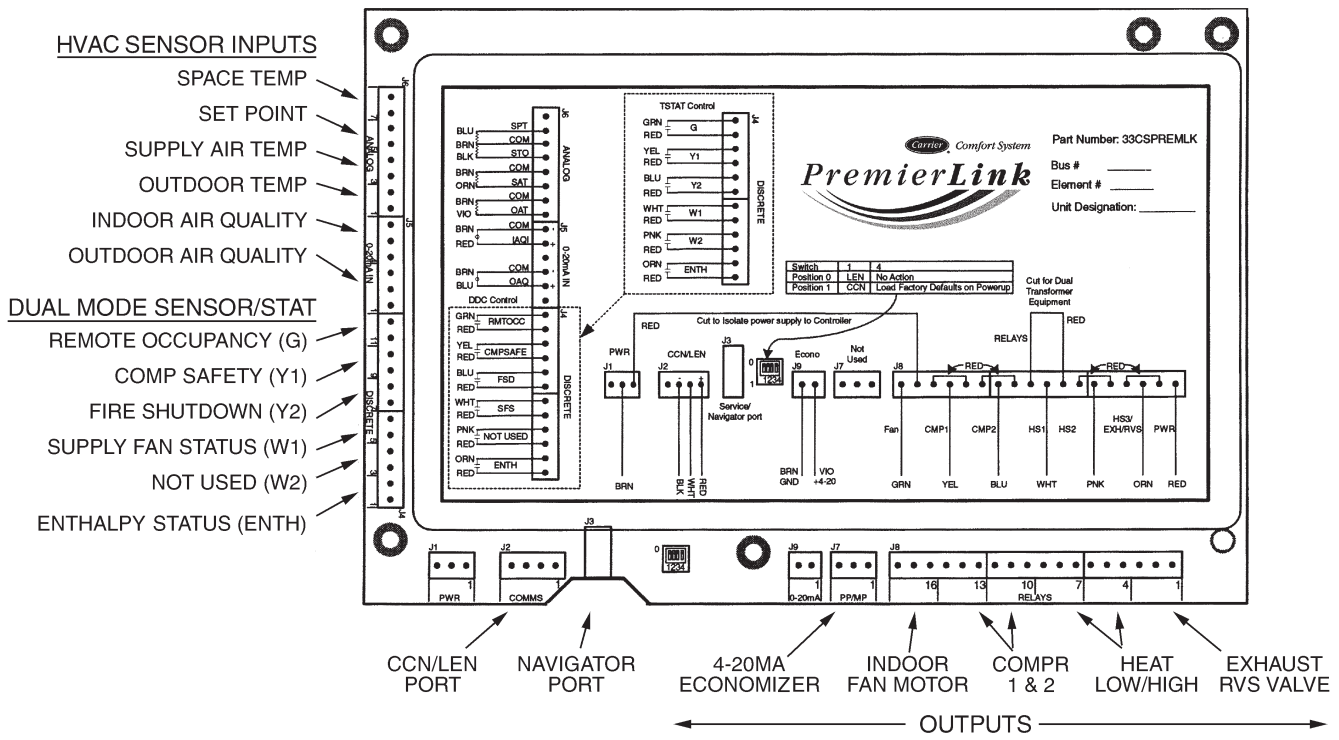

Fig. 38 - PremierLink Controller
The PremierLink controller (see Fig. 38) is compatible with Carrier Comfort Network® (CCN) devices. This control is designed to allow users the access and ability to change factory-defined settings, thus expanding the function of the standard unit control board. CCN service access tools include System Pilot (TM), Touch Pilot (TM) and Service Tool. (Standard tier display tools Navigator™ and Scrolling Marquee are not suitable for use with latest PremierLink controller (Version 2.x).)